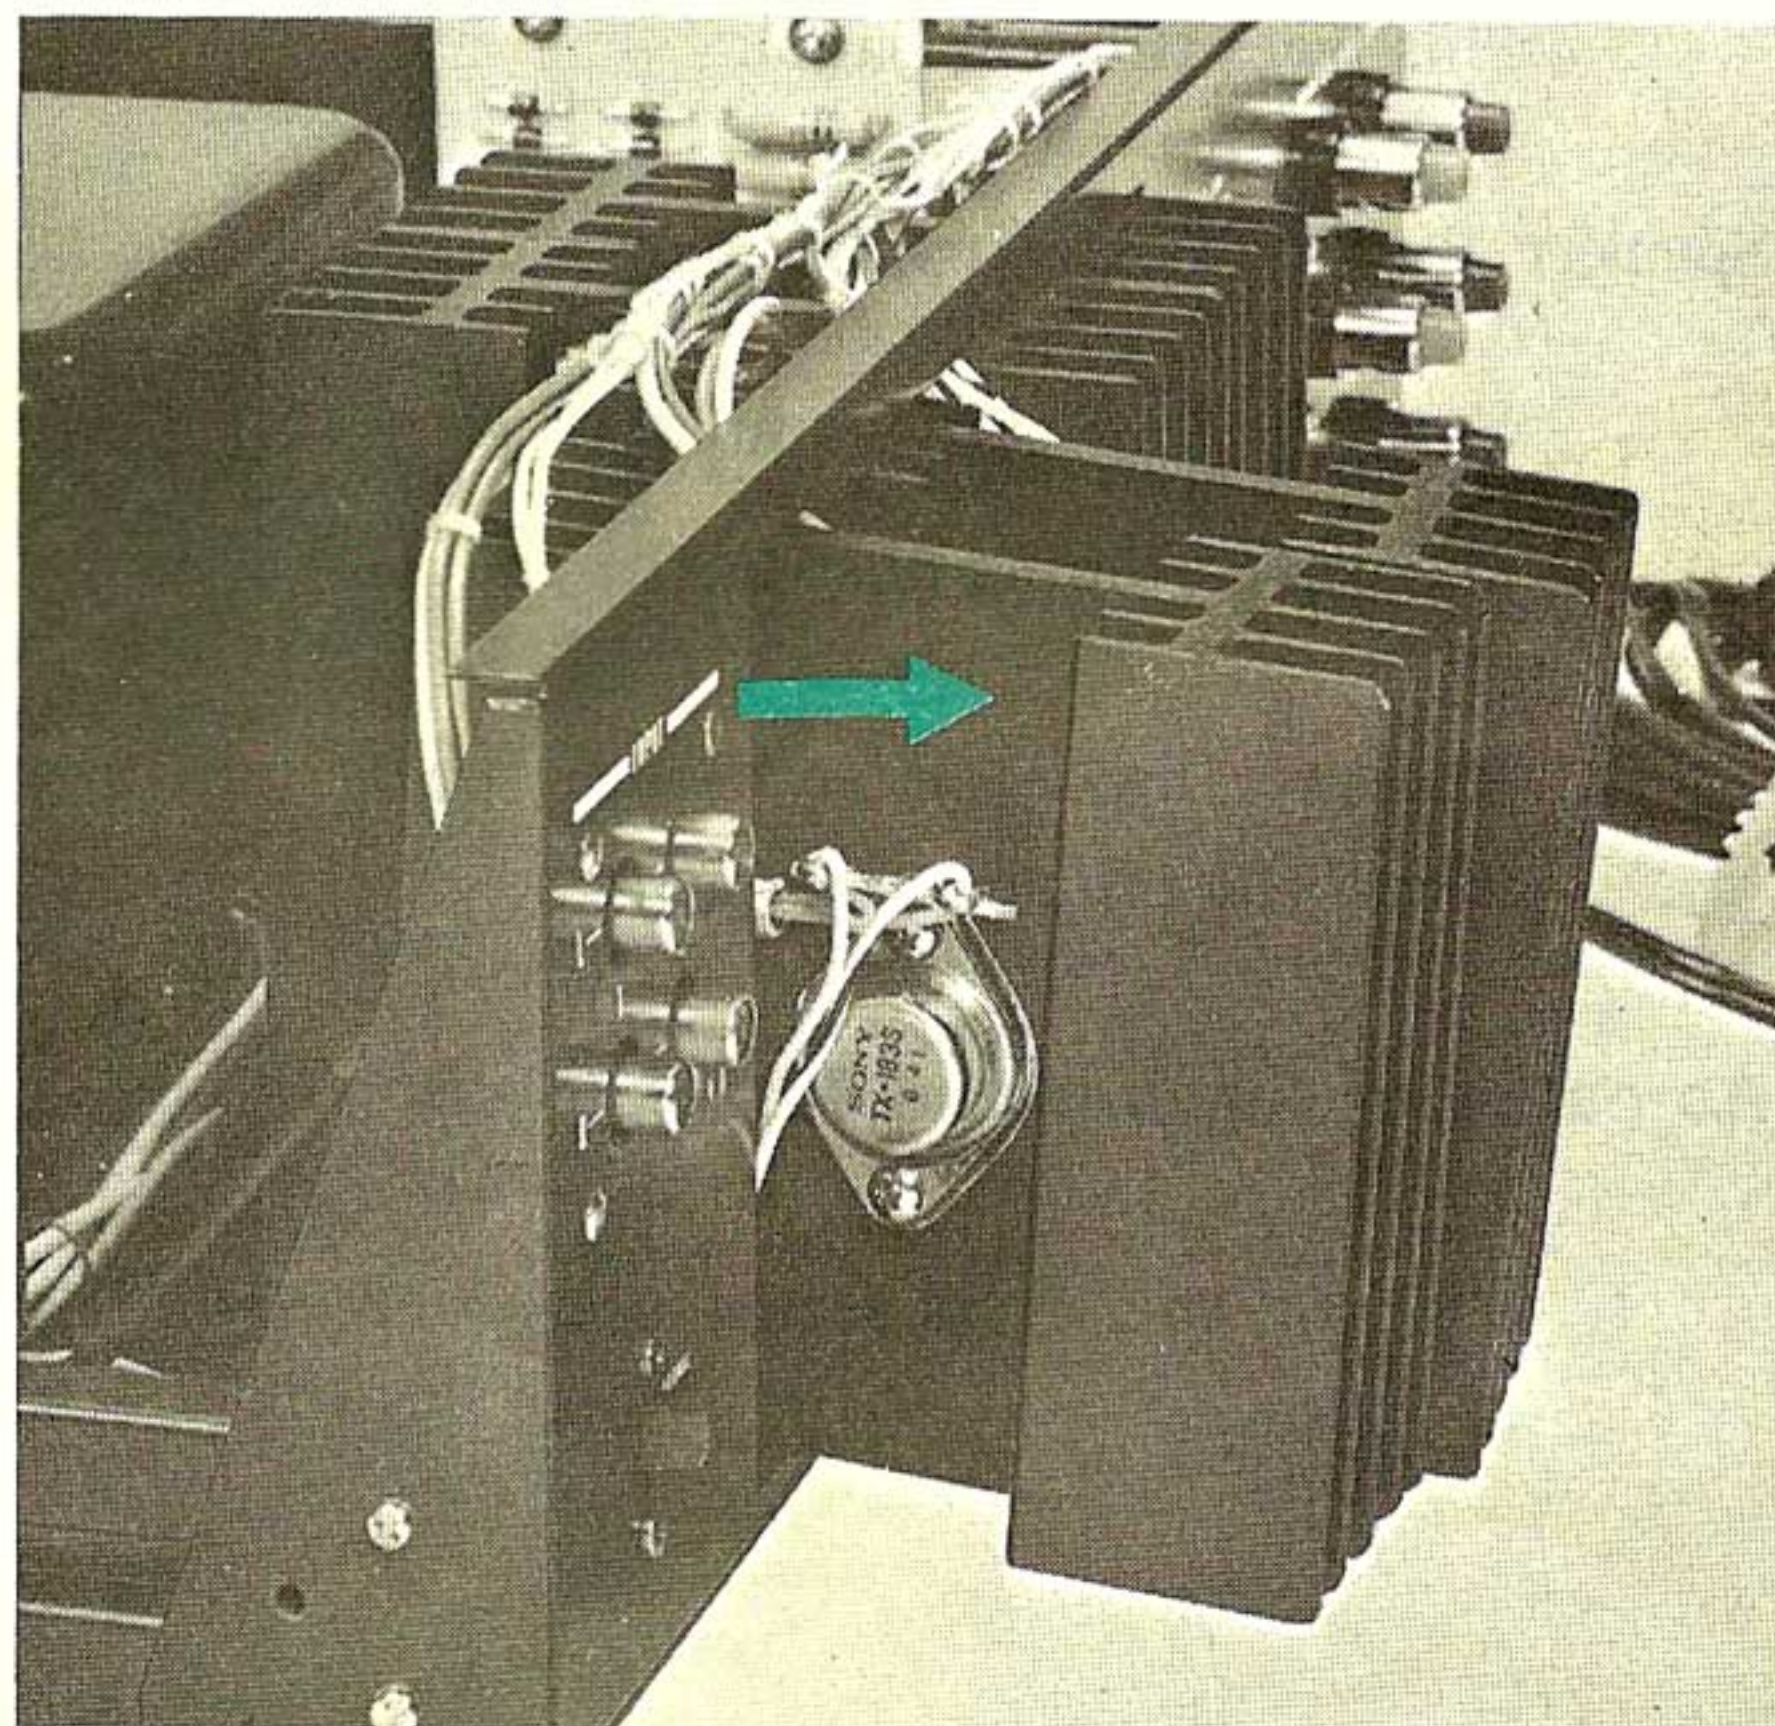

Fig. 2-7 Heat sink removal
3. Always remove the pair of heat sinks when replacing or checking the power transistor mounted on one of them as the signal harness restricts the heat sink movement as shown in Fig. 2-7.